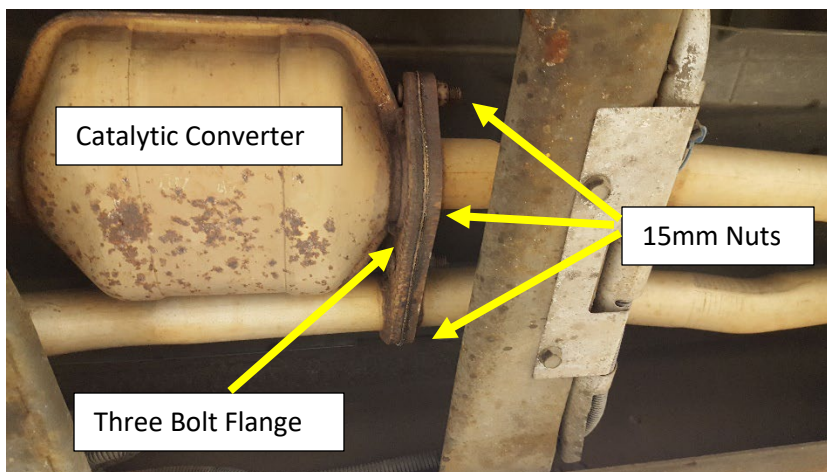

Figure.1
4. Remove the (x3) 15mm nuts at the flange just past the catalytic converter. **Figure.1**